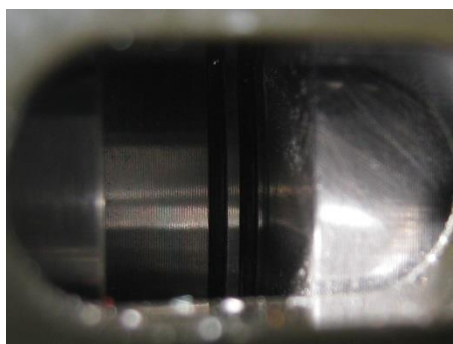

Figure 4-25. Two rings should be visible when the cable compression is correctly adjusted.
- 3) The two first rings should be visible but not the third one. See Figure 4-25. below. Adjust if necessary by removing the four screws and rotating the cable flange.